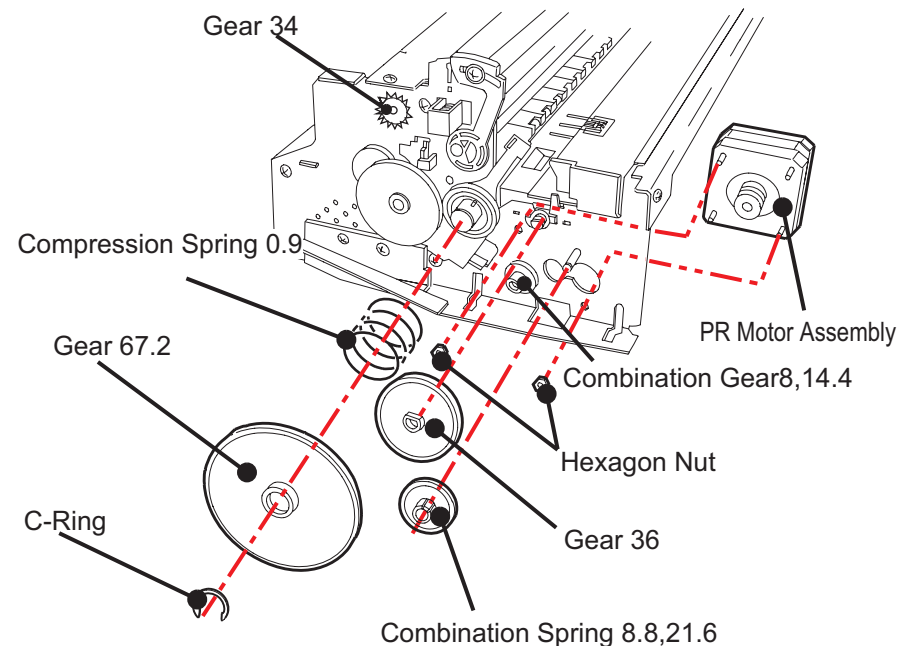

Figure 4-13.
- When disassembling the PF motor assembly, pull the motor assembly out of the frame a little bit and remove it, sliding it into a larger hole in the frame. (See Figure 4-13.)